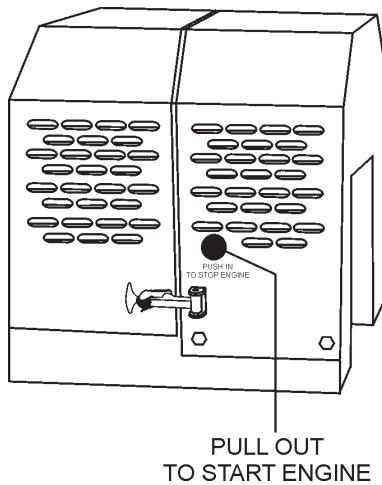

Figure 15. Start/Stop Switch (gasoline engine)
5. The main **start/stop** switch located on the engine cover is (Figure 15) is used to start and stop the engine. Pull this switch outward to start the engine.
2. Push the main **start/stop** switch (Figure 15) inward to stop the engine.